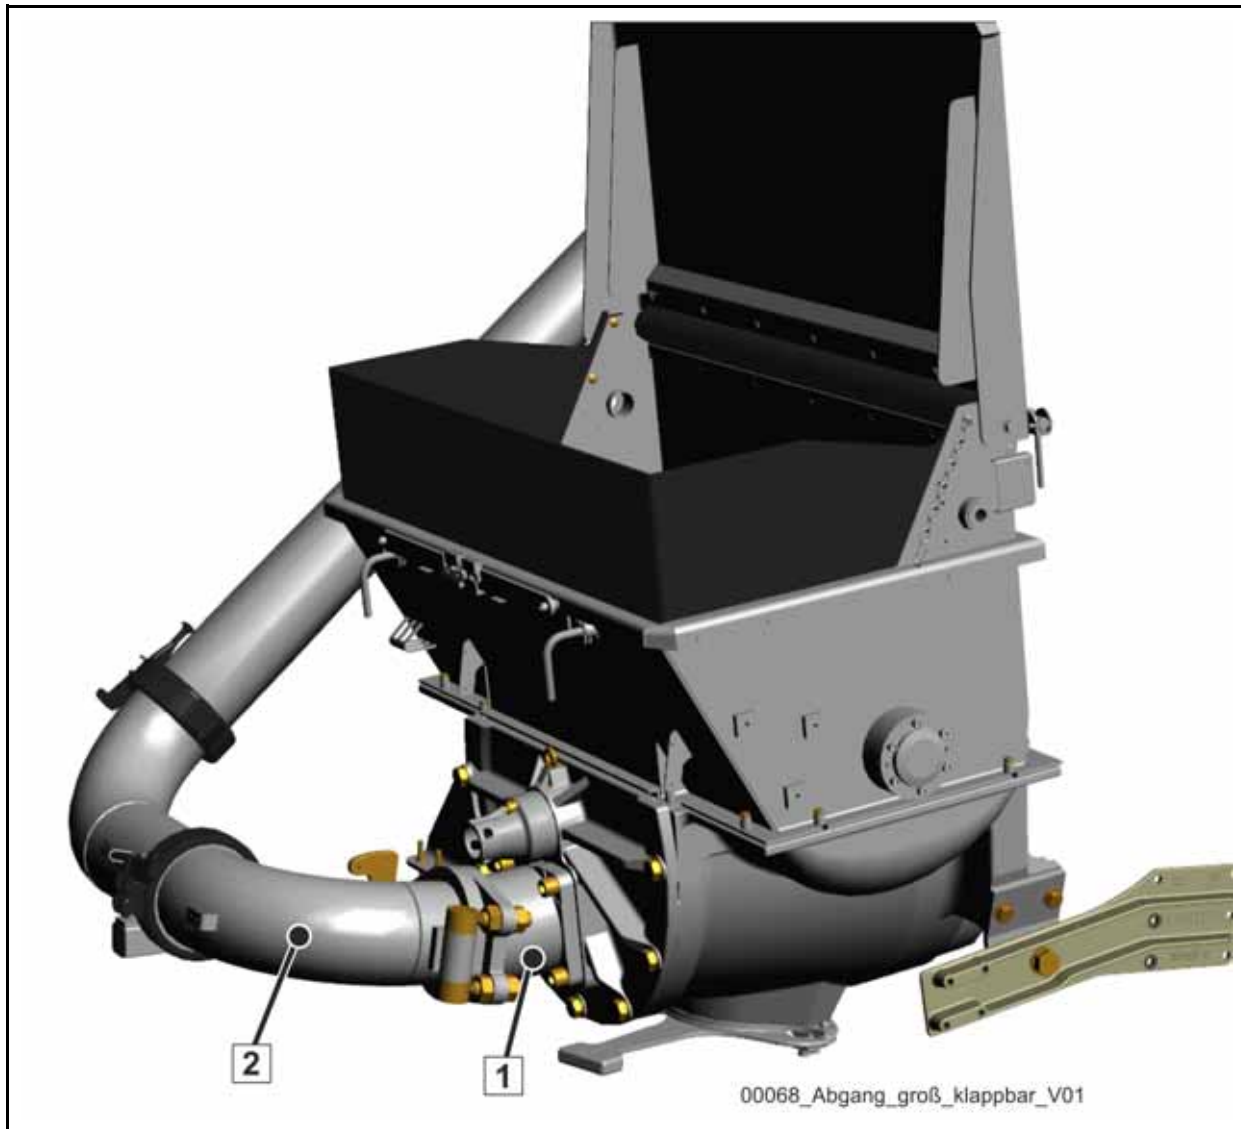

Fig. 152 Large outlet, foldable
The larger outlet 180/180/150 also has a 14-degree elbow mounted on the rock valve, see (1) (Fig. 152).